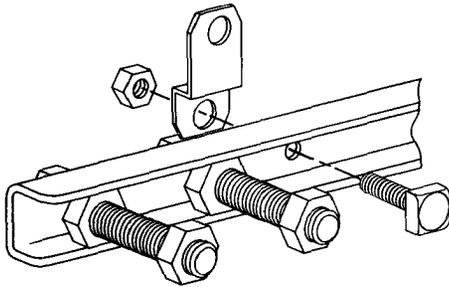

Figure 33 — Suspension Plate Assembly
- Aerial applications require that the suspension plates be installed to the back LOCKBAR Fastener prior to its application to the Splice Case. A special (third) hole is provided on either side of the back LOCKBAR assembly for this purpose. (Fig. 33)